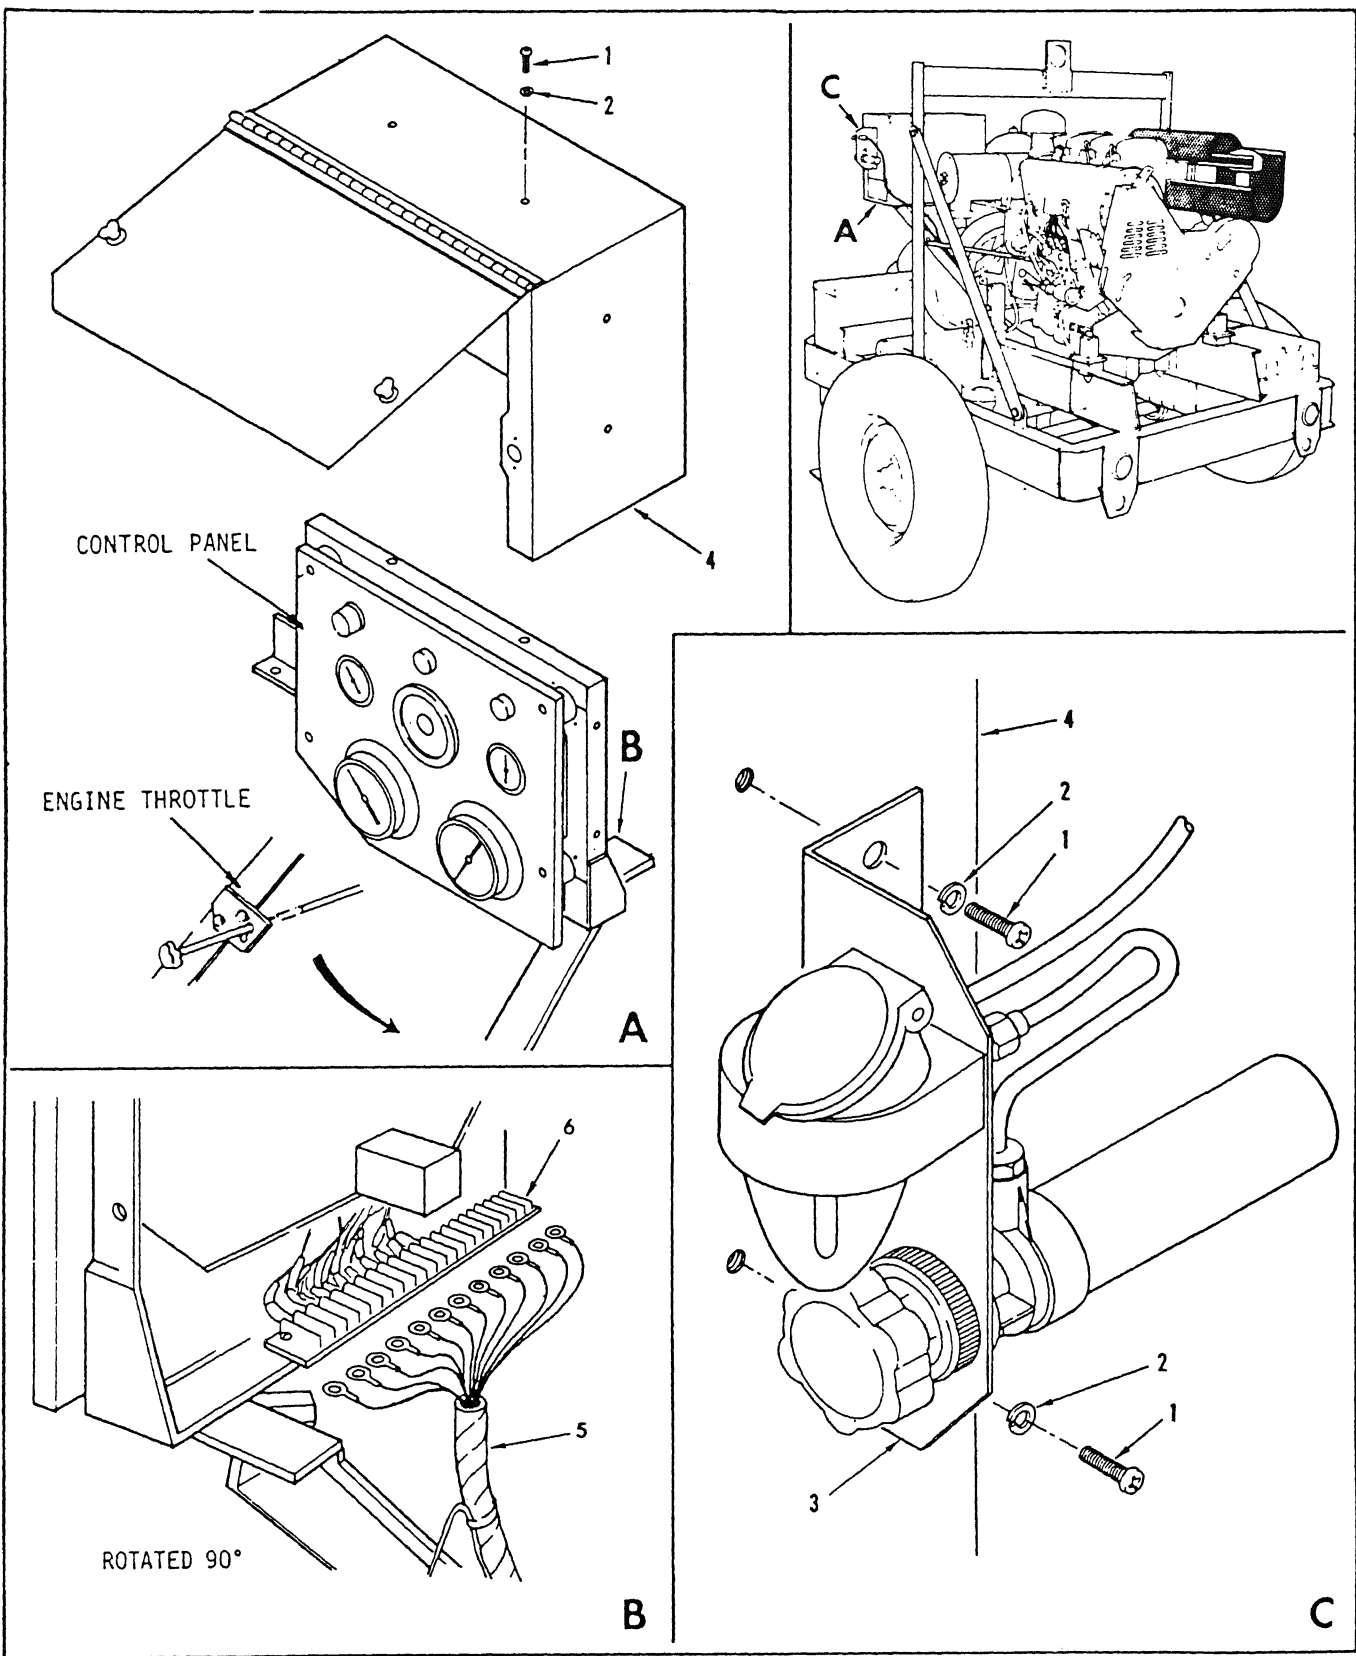

Figure 5-48. Engine Assembly, Removal Installation (Sheet 1 of 2)
- (1) Refer to paragraph 4-15 and remove negative (-) battery cable.
- (2) Remove screws (1, figure 5-48), washers (2) and cold weather start kit (3).
- (4) Carefully remove control panel cover (4, figure 5-48).
- (14) Connect harness assembly (5, figure 5-48) to control panel.
- (15) Install control panel cover (4).
- (16) Install cold weather start kit (3) with screws (1) and washers (2).